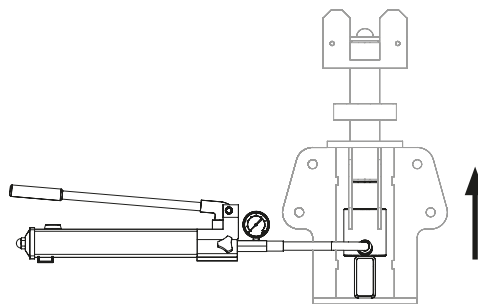

Fig. C2.03b
4. Pump up the hydraulic cylinder (50.1) to the required height (min. 50 mm). (Fig. C2.03b)